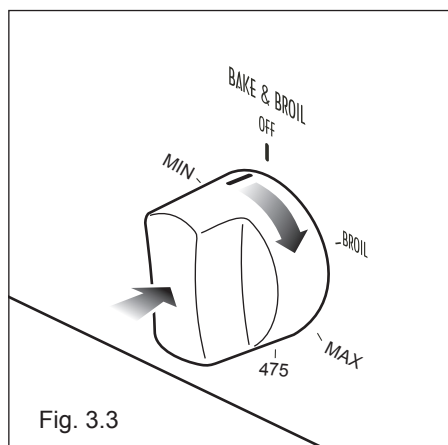

Fig. 3.3
- 2) Turn the knob to the **BROIL** position, Fig. 3.3. the oven automatically ignites, and it lights within 5.5 seconds; if it can't be lighted for the first time, it will ignite again after 12 seconds, and lights within 5.5 seconds; If it can't be lighted after repeating for 3 times, you need to reset the knob to OFF and then turn it on again.